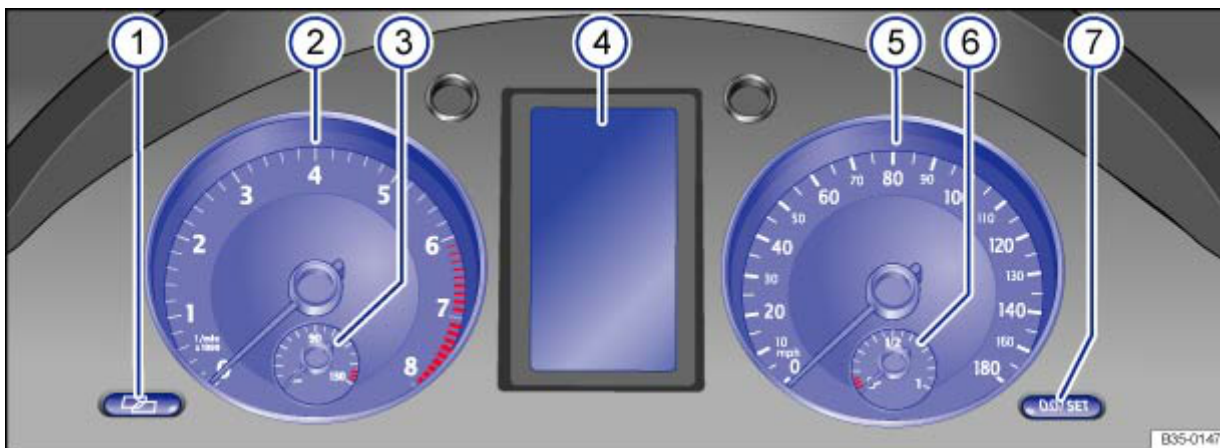

Fig. 11 Instrument cluster in the dash panel
Descriptions of the instruments → Fig. 11:
Depending on the vehicle equipment level, various information can be displayed in the instrument cluster → Fig. 11 ② :
The service display is shown on the instrument cluster → Fig. 11 .